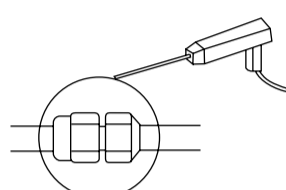

Fig. 7-4
7.4 Leakage checking of refrigerant at the coupling by gas leak detector or soapsuds, as shown in Fig. 7-4.